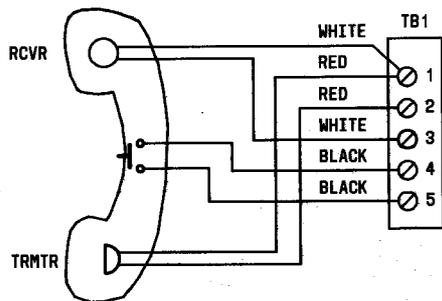

Fig. 8—Handset Connections
- (i) Make the handset connections on the TB1 terminal strip (Fig. 8).